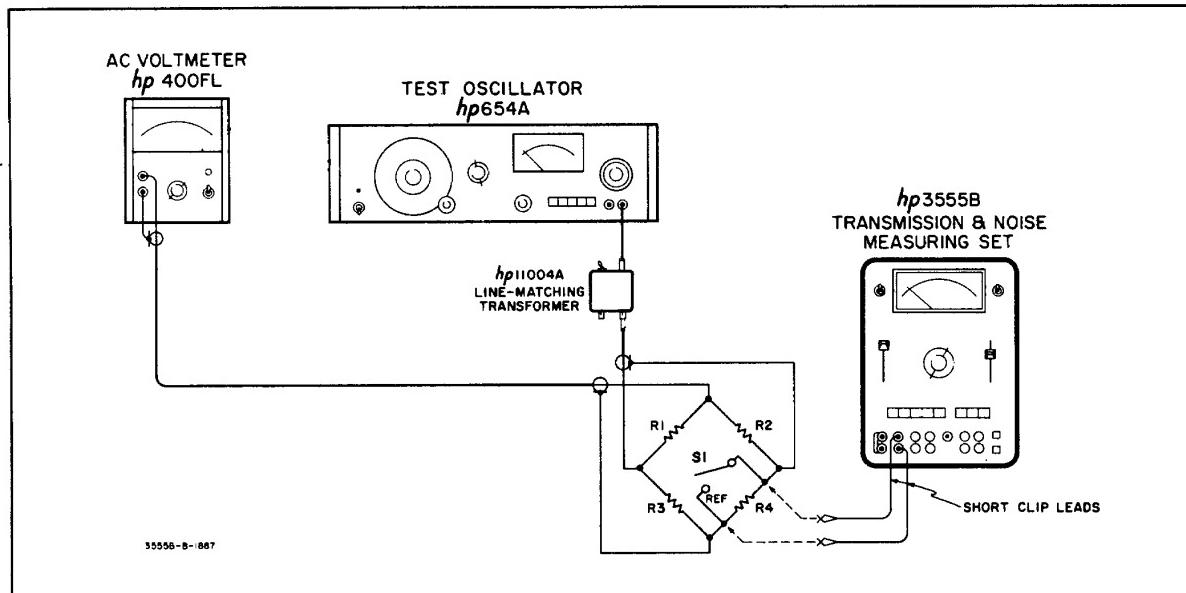

Figure 5-4. Return Loss Test Set-Up
- To make a return loss check it will first be necessary to construct a balanced bridge utilizing 0.1% resistors for each of the four 3555B impedances. Figure 5-4 shows the equipment test set-up to be used. For this check to be meaningful, all test leads should be kept short. The leads connecting the 3555B to the bridge should be short clip leads and should be kept away from each other and from other leads. Keep all the instruments away from other instruments that may be referenced to earth ground.
- Connect the equipment as shown in Figure 5-4 and set the 3555B controls as follows:
- Set the 654A frequency to 1kHz. Temporarily close S1 in Figure 5-4 and adjust the 654A output level for an up scale indication on the 400FL AC Voltmeter.
- e. Unplug or disconnect R4 in Figure 5-4 and connect the 3555B tip and ring in its place. Be sure to use short clip leads.
- f. Momentarily close S1 and recheck the reference on the 400FL. Open S1 in Figure 5-4 and down range the 400FL for an on-scale indication. This indication must be down at least 30dB from the reference.
- i. Change the bridge resistors in Figure 5-4 to 900 ohms $\pm 0.1\%$ (use 300 ohms $\pm 0.1\%$ in series with 600 ohms $\pm 0.1\%$) and change the 3555B FUNCTION to VF/Nm 900 BAL. Be sure to reset the reference level after the resistors are changed. Check the return loss between 50 Hz and 20 kHz. The return loss must be better than 30 dB.
- j. Change the bridge resistors in Figure 5-4 to 135 ohms +0.1% and change the 3555B FUNCTION to 135 BAL. Check the return loss between 1kHz and 600kHz. The return loss must be better than 26dB down from the reference.
- k. Change the 3555B input connection to the 75 UNBAL jack. Change the resistors in Figure 5-4 to 75 ohms +0.1% and change the 3555B FUNCTION to CARRIER 75 UNBAL.